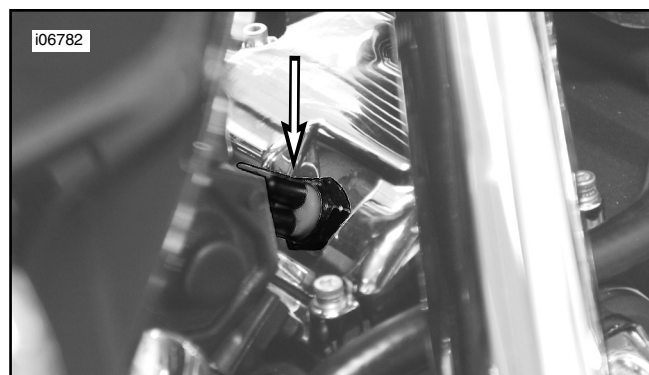

Figure 2. Neutral Indicator Switch Connector
4. See Figure 2. Remove connectors from neutral switch.